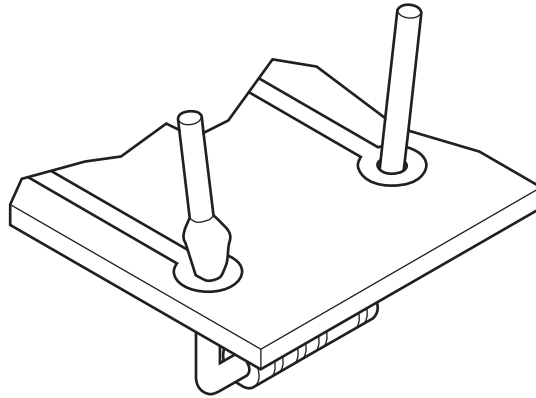

Fig. 7
- (d) Fig. 7 shows a faulty soldered connection. After heating the joint for some time the solder could not be made to flow correctly.